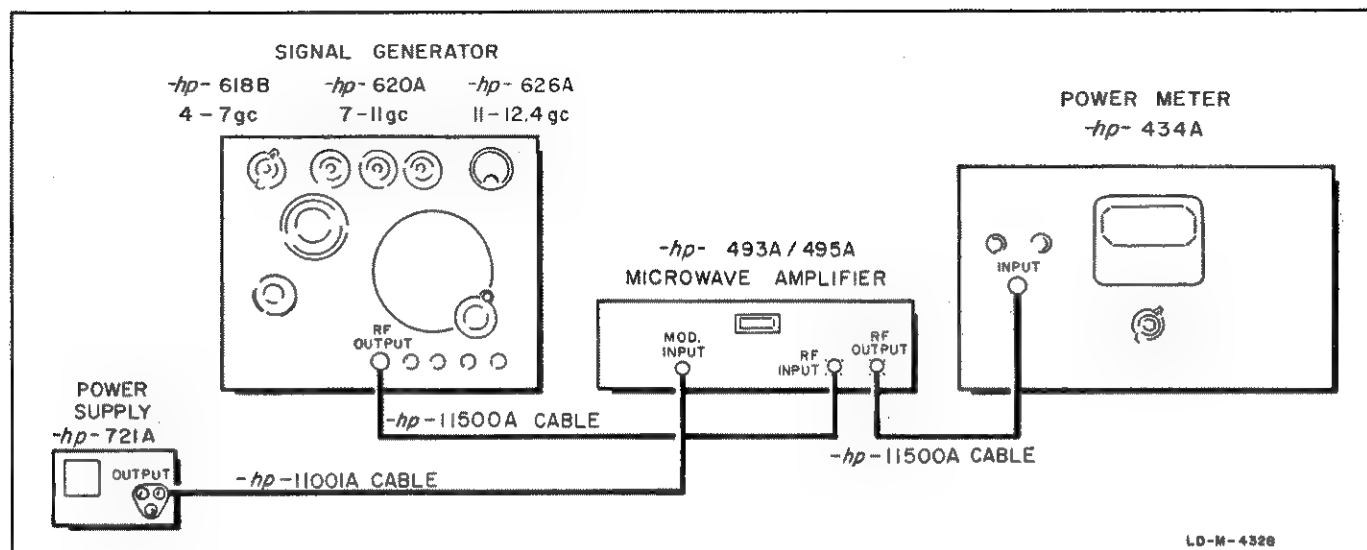

Figure 5-8. Modulator On-Off Ratio
a. Set up the Model 493A as shown in figure 5-8 (power supply power off). Signal generator set up for a 1 mw output at microwave amplifier low power point.
a. Connect the Model 493A as shown in figure 5-8, with the signal generator and the power meter at the same setting as those in paragraph 5-36 steps c and d.